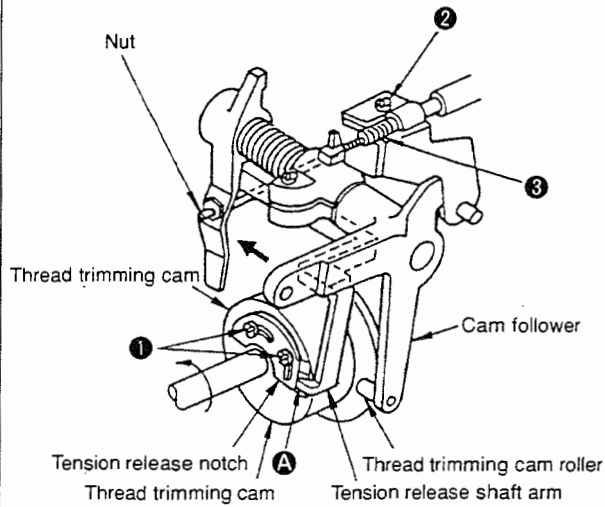

Fig. 5-17-1
**(Caution)** After adjustment, press the thread trimming cam shaft toward the direction of the arrow ( → ) (Fig. 5-17-1) so that the thread trimmer clutch components are engaged. And then turn the handwheel by hand in the normal rotational direction until the thread take-up exceeds its highest dead point and confirm that the tension release shaft arm comes off from the tension release notch and that the tension disc of the thread tension controller No. 2 closes simultaneously the cam follower returns to the end face of the arm. The adjusting procedure of tension release notch for the conventional AMS-210A, -212A type of the sewing machine is described in (17)-Ref. on page 78. The tension release notch in the conventional AMS-210B, -212B type of the sewing machine can be adjusted following the procedure described on this page
Press the cam follower in the direction of the arrow ( → ), and turn the handwheel in the normal direction by hand. When the tension release shaft arm rides on stepped portion **B** of the tension release notch, the tension disks of the tension controller No. 2 should be released by 0.6 to 0.8 mm (0.024" to 0.031") (0.8 to 1.0 mm (0.031" to 0.039") only for the GL type). (Figs. 5-17-1, 5-18-1 and 5-18-2)
<ol style="list-style-type: none"> <li>1) Under the condition described at left, loosen setscrew ② of the tension release wire clamp. (Fig. 5-17-1)</li> <li>2) Adjust the fixing position of portion ③ of the wire tube so that the tension disks are released by 0.6 to 0.8 mm (0.024" to 0.031") (0.8 to 1.0 mm (0.031" to 0.039") only for the GL type). After adjustment, tighten setscrew ②. (Figs. 5-17-1, 5-18-2)</li> </ol>	<ul style="list-style-type: none"> <li>• The length of thread which remains on the needle after thread trimming would be too short or inconsistent.</li> </ul>